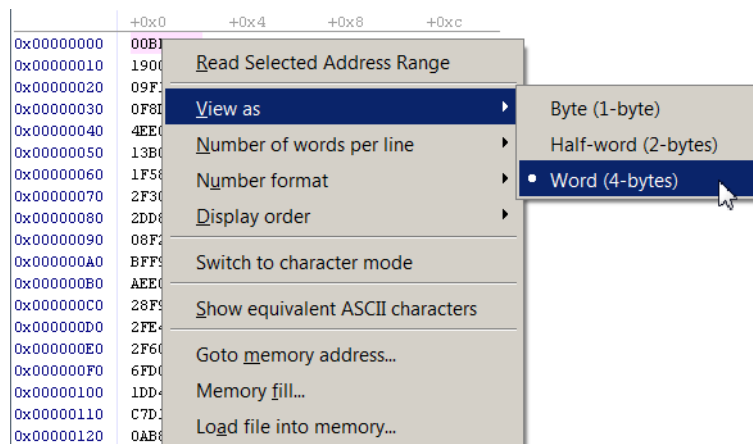

Figure 34. Setting the memory element size.
- Memory element size - the display can format the memory contents as bytes, half-words (2-bytes), or words (4-bytes). This setting can be configured by right-clicking on the Memory window, as illustrated in Figure 34.